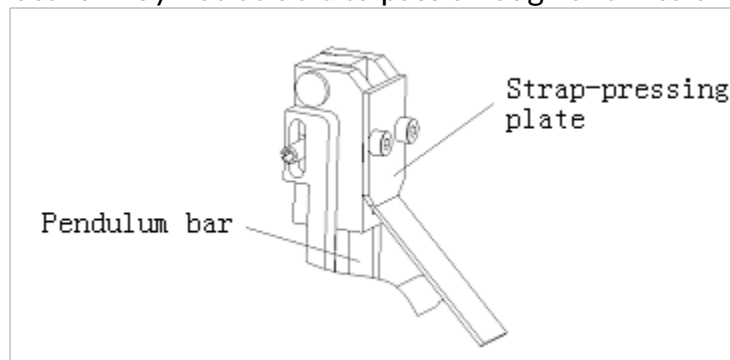

Fig. 4-7
4. Strap press plate is too low (Fig. 4-7)